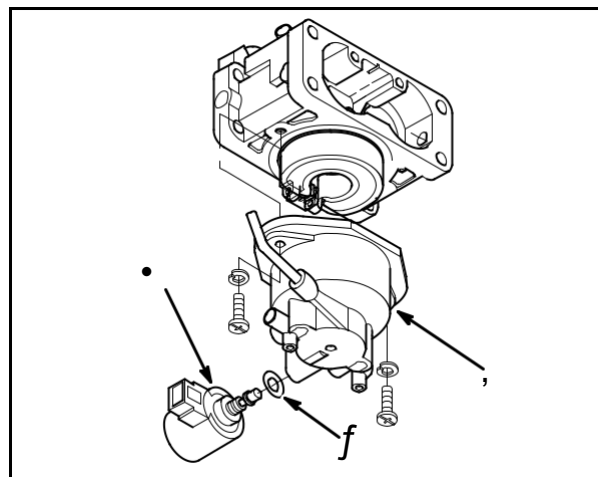

Fig. 117
Remove two screws and float bowl (2), **Fig. 117**. Discard O-ring.